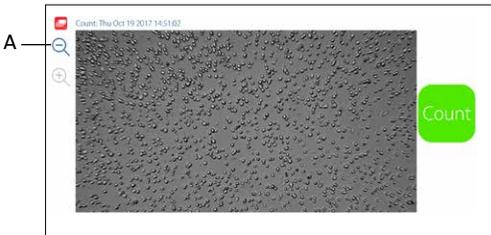

Figure 17. Live screen of the CytoSMART™ application
After placing the loaded counting chamber on the Corning® Cell Counter, you can see an image of the cell sample in the live screen (Figure 17).
2. Check the image to see if the focus is correct – correct it if needed – and select “Count” from the start screen (Figure 17).